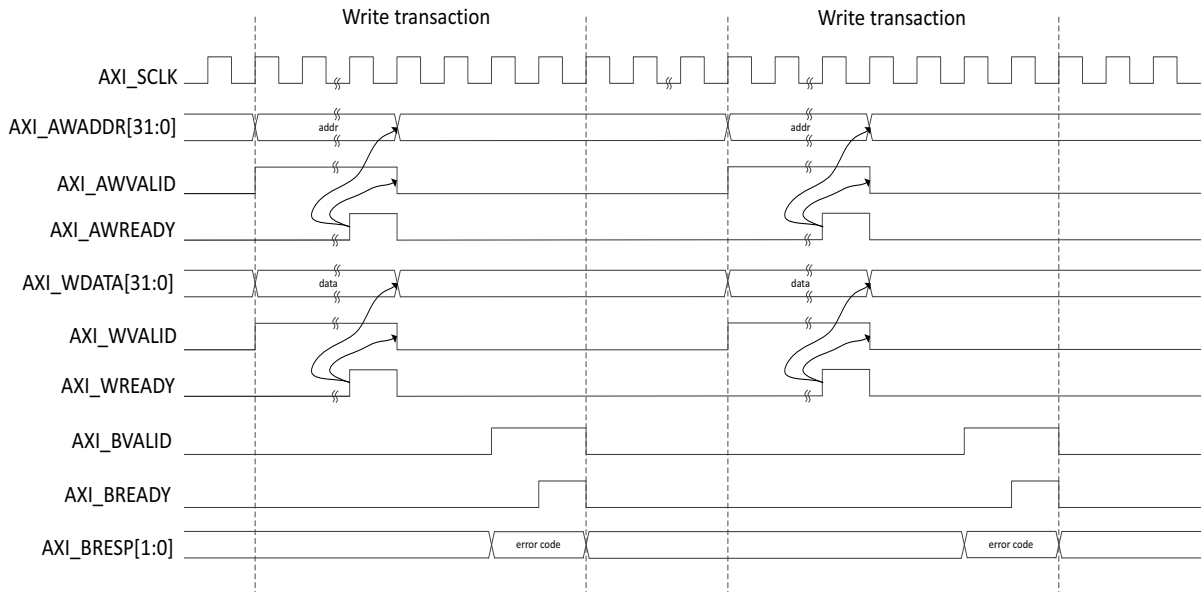

Figure 5-14: AXI4-Lite User Side Write Transaction with Invalid Write Address
- Invalid Write transactions (Figure 5-14)